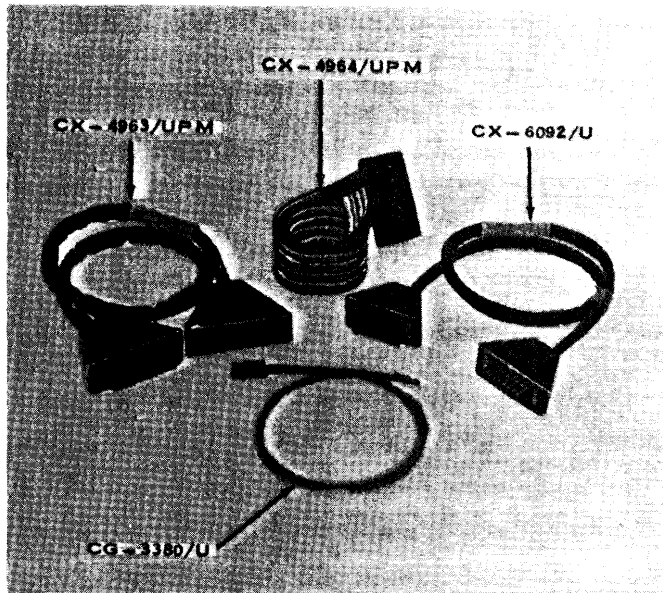

Figure 1-7. Servicing Cable Assemblies
(4) CONNECTOR ADAPTERS. Five types of adapters (listed in table 1-1) are included for making connections between various types of connectors, using the video and rf cable assemblies supplied.
(5) ELECTRICAL DUMMY LOAD DA-232/U. Two BNC-type plugs containing 75 ohm resistors and designated with the nomenclature DA-232/U are supplied with the accessories. The purpose of these plugs is to properly terminate open-end transmission lines.
(6) SPECIAL SERVICING CABLES. Four special-purpose servicing cable assemblies (figure 1-7) are supplied for connecting the plug-in units to their major assembly connectors when the units have to be operated outside of the drawer-chassis for adjustment or maintenance. Cable Assembly CX-4963/UPM is for use on any of the four plug-in units of the TS-1253A/UP. Cable Assembly CX-4964/UPM is designed to provide extended connections between 1P3 on the Display unit and 2J2 on the Sweep and Intensity Mark unit of TS-1253A/UP. Cable Assembly CX-6092 is for use with the two plug-in units of the Coder Simulator, Cable Assembly CG-3380 /U is for connecting the RF output from the jack on rear of the Interrogation Coder unit to the Coder Simulator front panel jack LP IN for test measurements of ISLS output power. Extender Card GB4825 is for use during troubleshooting of Interrogation Coder subassemblies.
(7) CATHODE RAY TUBE VISOR MX-2953/UPM. This visor fits over and clamps onto the lip around